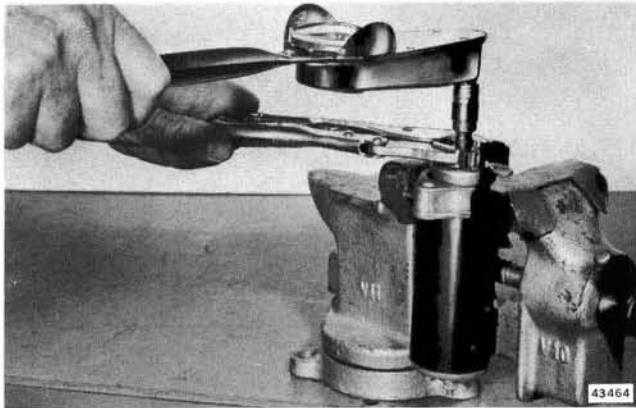

Figure 7-12. Torquing Pinion Nut to 150-170 Inch-Lbs (17-19 N·m)
d. Assemble pinion drive, spring, spacer and nut to armature shaft. Torque nut to specifications in Section 2. See Figure 7-12.